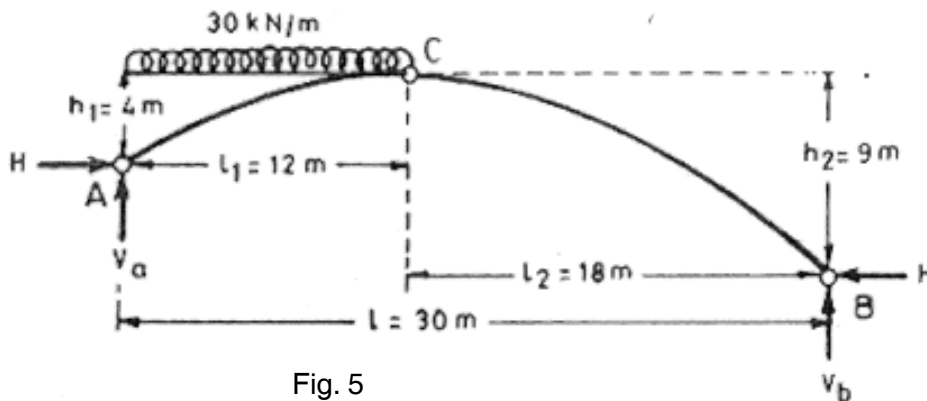

Fig. 5
5. A three-hinged parabolic arch ABC of span 30 m has its support A and B at different levels, A being at a higher level than B. The support A is 4 m below the crown hinge C and 12 m horizontally from A. The arch carries a uniformly distributed load of 30 kN/m from A to C determine the horizontal thrust and the vertical reactical reactions at the support. Find also the maximum bending moment for the arch. Refer Fig. 5